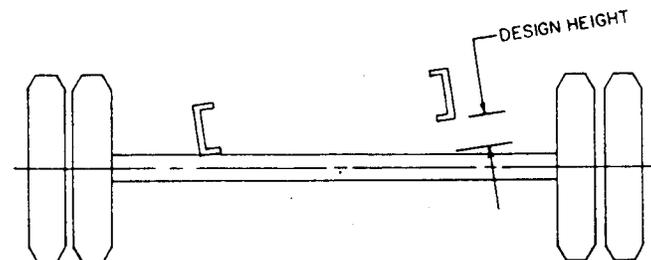

FIGURE 6A—SOLID AXLE REAR SUSPENSION TRAVEL—ONE WHEEL JOUNCE
- 5.2.2.2 *One Wheel Jounce*—Analysis of tire to body clearance to be made by restraining one wheel in its design position and jouncing other wheel to full metal to metal position. See Figure 6A.